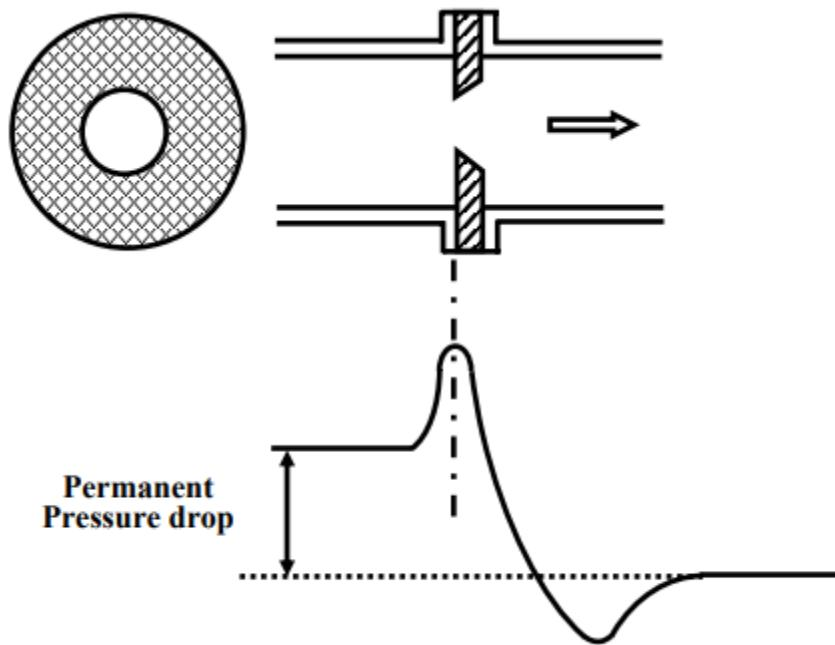

Fig. 3 Orifice plate and permanent pressure drop
- The major advantages of orifice plate are that it is low cost device, simple in construction and easy to install in the pipeline as shown in fig.3.
- The major disadvantage of using orifice plate is the **permanent pressure drop** that is normally experienced in the orifice plate as shown in fig.3. The pressure drops significantly after the orifice and can be **recovered only partially**. The magnitude of the permanent pressure drop is around 40%, which is sometimes objectionable. It requires more pressure to pump the liquid. This problem can be overcome by improving the design of the restrictions. **Venturimeters** and **flow nozzles** are two such devices.